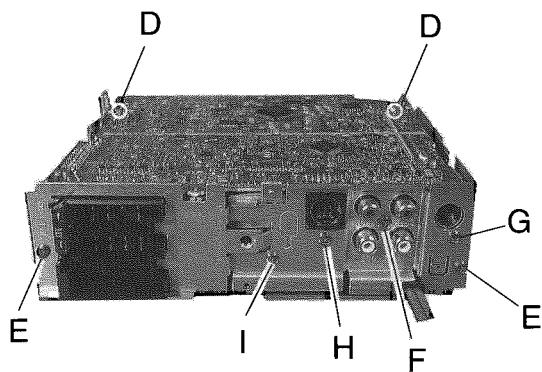

Fig 7
**■ Removing the rear brackt (See fig7)**